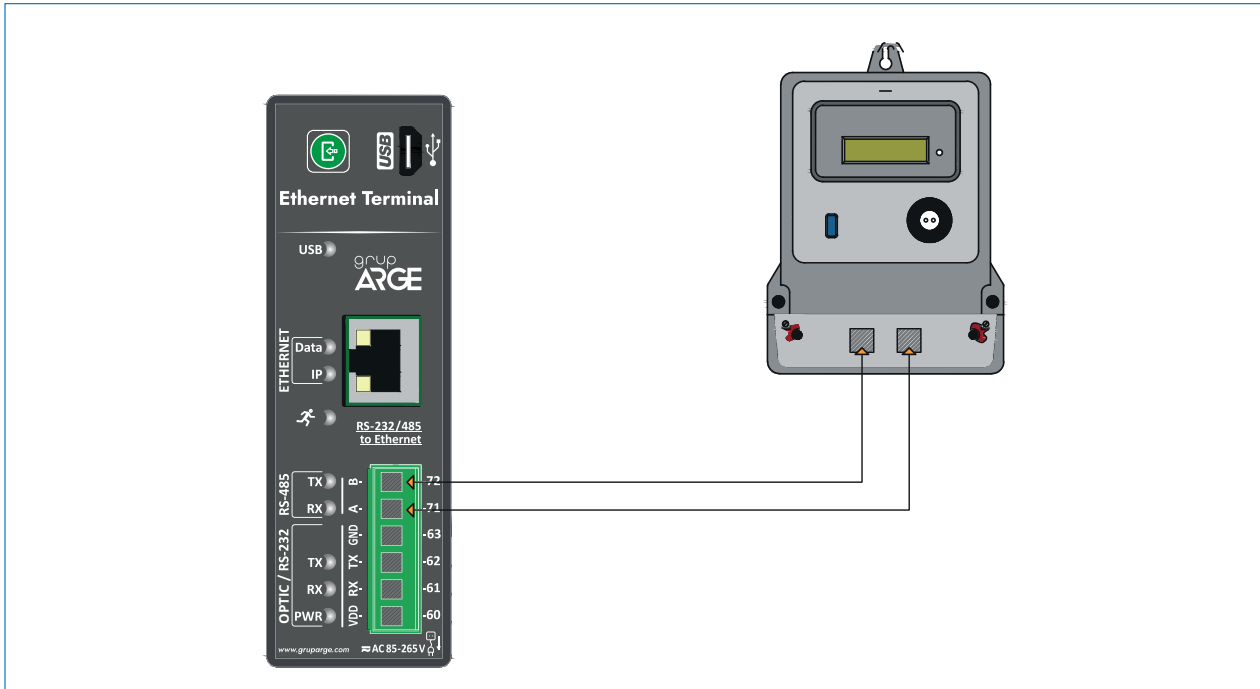

Figure 11
- c. Electricity Meter / RS-485: See Figure 11; 12; 13; 14; 15; 16